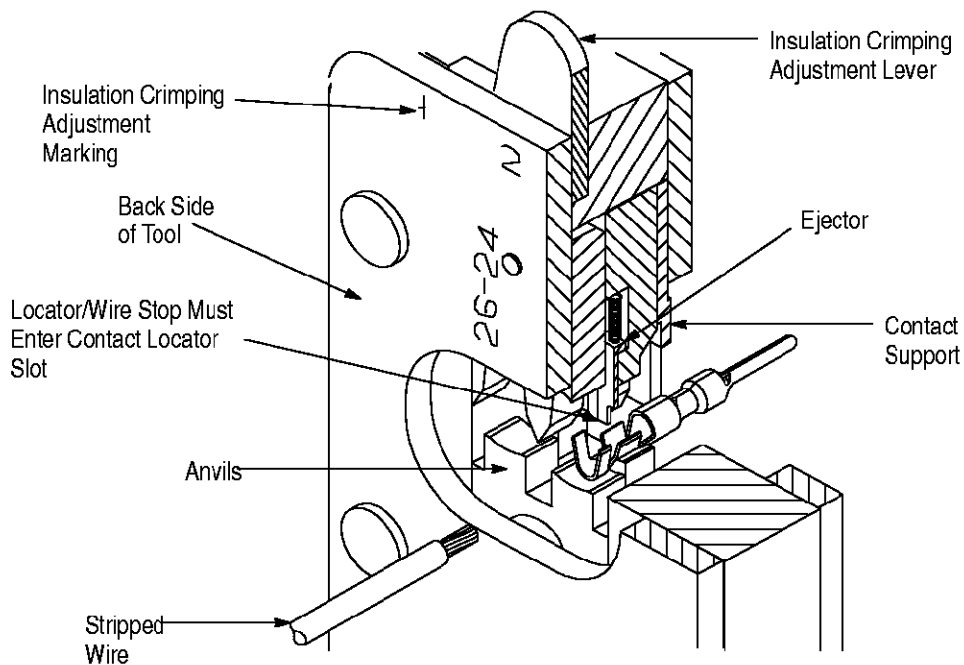

Figure 3
contact locator slot. Make sure that it is flush with the edge of the die. See Figure 3.
1. Slide the insulation crimping adjustment lever to Position 3 (marked on the back side of the tool). Refer to Figure 3.